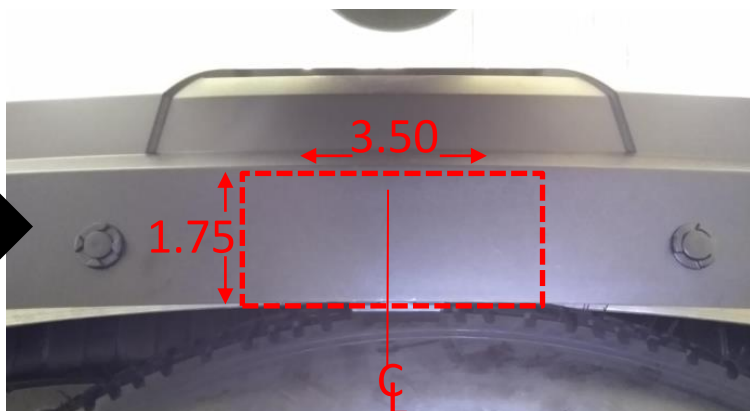

Figure 2
2. **Lower exhaust** – Using exhaust removal pliers and soapy water, remove (3) exhaust hangers. (1) can be found at the end of the exhaust and the other (2) can be found around the middle of the vehicle. Be sure to support exhaust before removing rubber hangers. Apply soapy water as needed.
3. Trim fascia - Using a tape measure, marker, and utility knife, measure, mark, and trim the lower fascia as shown in **Figure 2**.